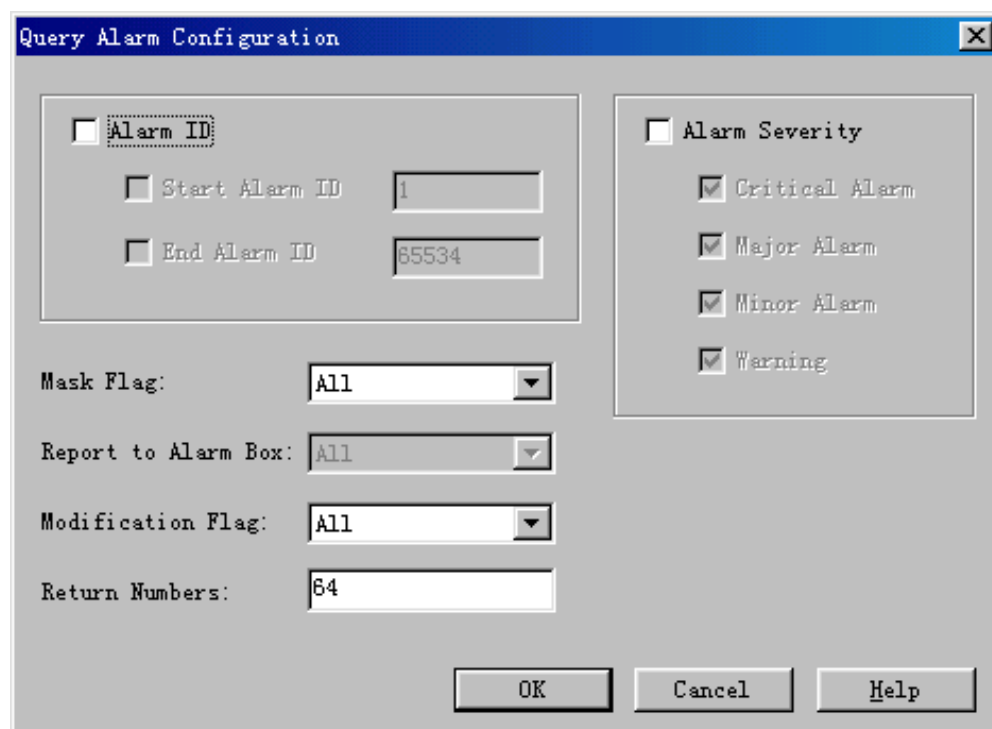

Figure 5-12 Query Alarm Configuration dialog box
- 1) Select **Management -> Alarm Configuration**. The **Query Alarm Configuration** dialog box opens up, as shown in Figure 5-12.